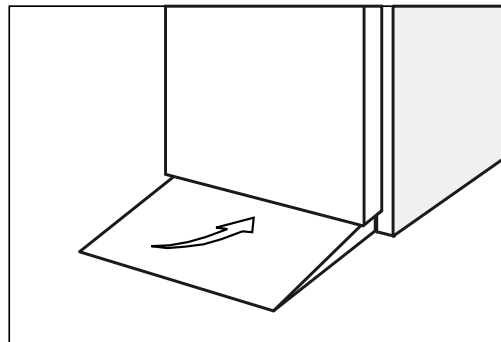

Fig.6
- position the access ramp ( Fig. 6 )